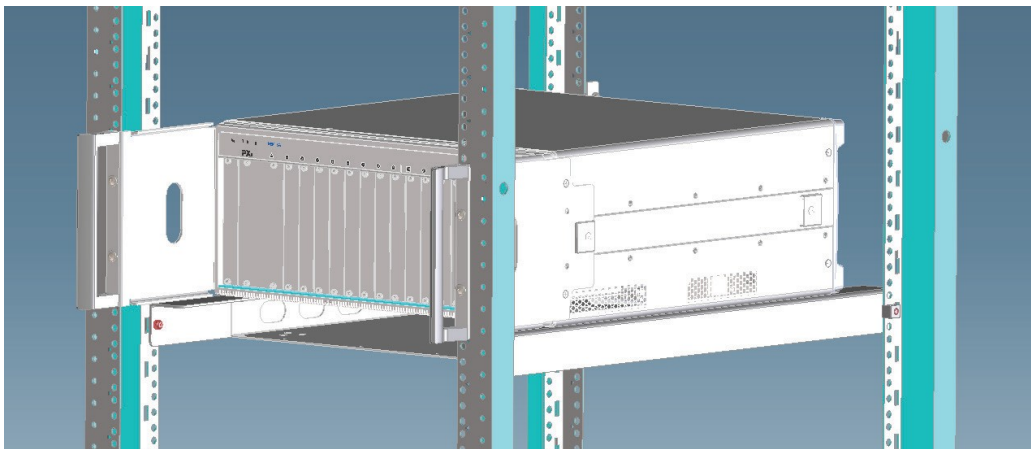

Figure 6. M9018B and M9019A chassis rack-mounted using the Y1216A, Y1217A, and Y1218A.
- Y1216B Recess mount rack kit (Figure 6): Complete recess-mount kit including rack flanges, handles, and attachment hardware. The kit recesses the chassis by 4 inches and suspends the chassis in a Keysight rack using only 4U of rack space. Rack rails may be needed in a non-Keysight rack.
- Y1217B Rack mount rail kit (Figure 6): This optional kit provides additional stability to the chassis when rack-mounted. When using rails, the chassis will require 5U of rack space. Rails may not fit in a non-Keysight rack.
- Y1218A Cable tray kit (Figure 6): Adds a 1U high cable tray to the chassis and includes cable tray, feet for using the chassis/tray on a table, and attachment hardware.